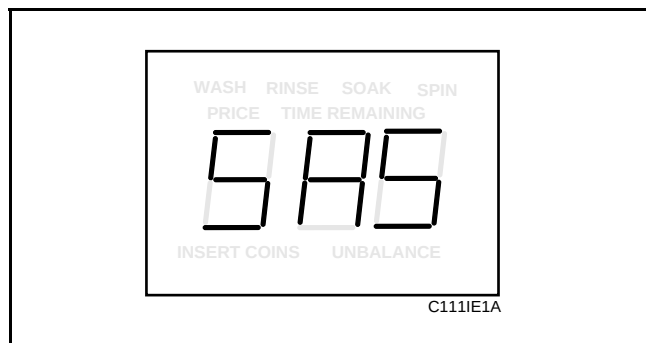

Figure 20
3. Press the DELICATES (+) pad or the COLD (-) pad to scroll through the programmable options until “SAS” appears in the VFD. See **Figure 20**.